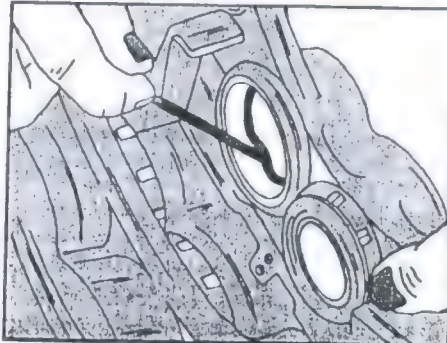

Fig. 7.10 – Remove the rubber dust seals in the manner shown from the end faces of the pistons.
- Clamp the caliper into a vice and remove the dust seal from cylinder and piston (Fig. 7.10).